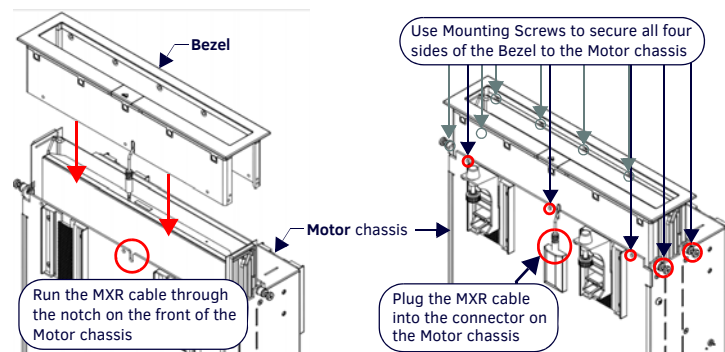

FIG. 7 ATTACHING THE BEZEL TO THE MOTOR CHASSIS
- Before the MXR-1001 can be installed, the Bezel must be separated from the Motor chassis: Remove the 11 screws (3 on the front, 4 on the back, and 2 on each side), unplug the MXR cable, and lift the Bezel off of the Motor chassis (FIG. 7):
- Secure the Bezel to the Motor chassis using all 11 supplied mounting screws - there are 3 mounting holes on the front, 4 on the back, and 2 on each side (FIG. 7):